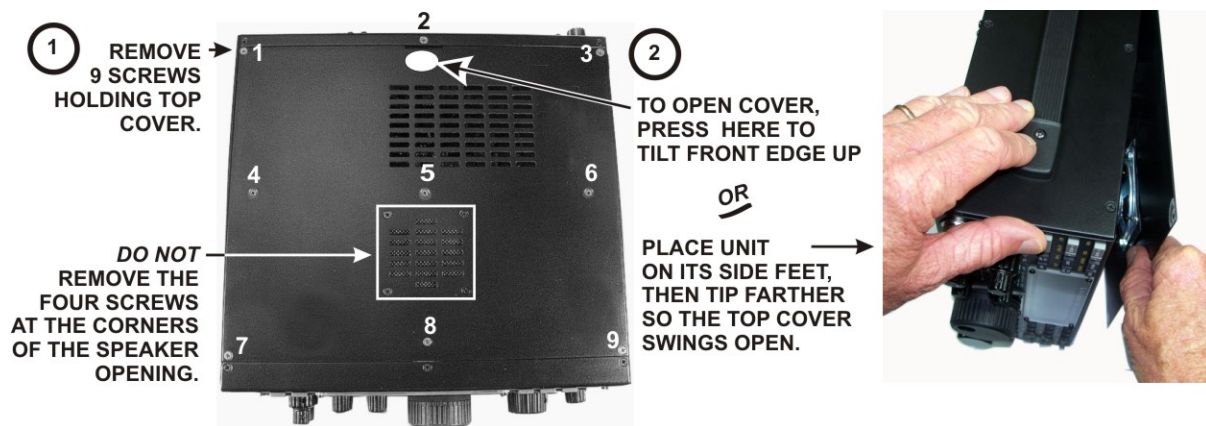

Figure 1. Removing K3S/K3 Top Cover.
- ☐ Remove the nine screws to free the top cover as shown in Figure 1. After the cover is open, lift it gently to reach the speaker wire connector. Unplug the speaker then set the top cover aside in a safe place.